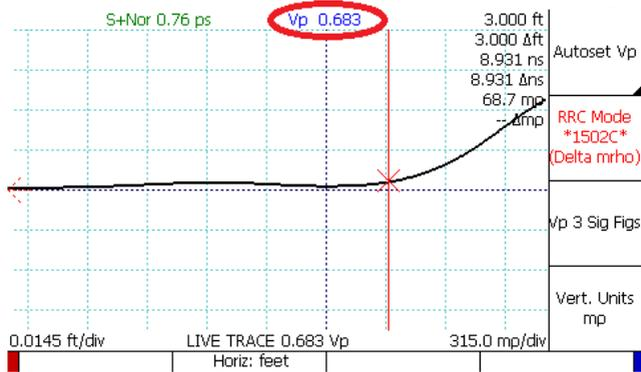

Figure 4.7. Final Vp of the cable.
5. Press the *M-FUNC* button to set the *M-FUNCTION* to Vp, and adjust Vp using the *M-FUNCTION* knob until the CT100B distance measurement to the active cursor equals the physical measurement. The final Vp value is the true Vp value of the cable (Figure 4.7). Note that in the *Measurement* → *Meas. Settings* menu there is an option to set Vp to six significant digits.